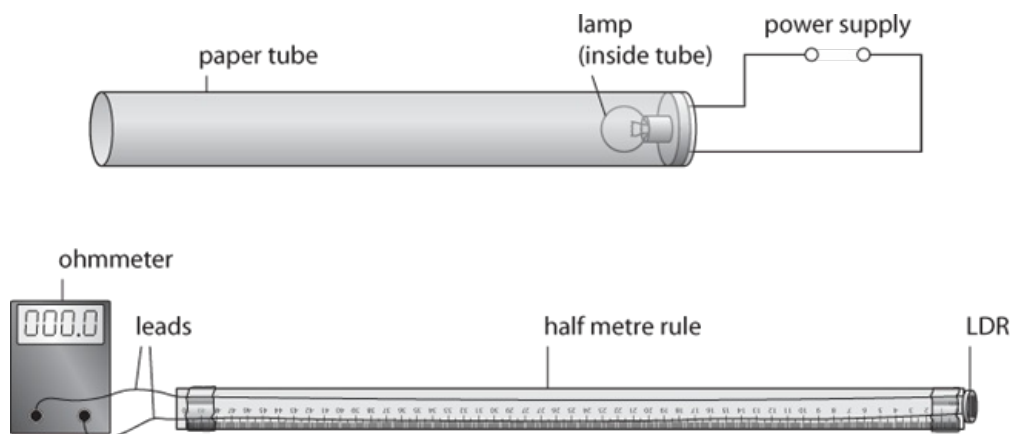

Figure 8.3: Two diagrams showing lamp in tube and wire on metre rule attached to ohmmeter.
- 1 Assemble the two parts of the apparatus as shown in Figure 8.3.